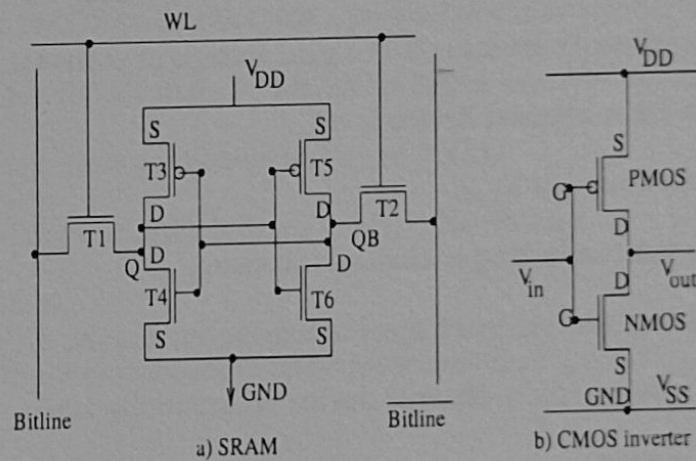

Figure 25: 6-T SRAM cell
Typical SRAM has a 6-transistor cell structure as shown in Figure 25(a).
Cell is made of a pair of cross-coupled inverters (Figure 25(b)) and two access transistors.
In Figure 25(b), the drains (D) of two transistors are connected together and form output.
The Cross-coupled inverters in Figure 25(a), forms a latch and holds the binary information. If output of one inverter is high (corresponding to the  $n$ MOSFET being OFF, and  $p$ MOSFET ON).